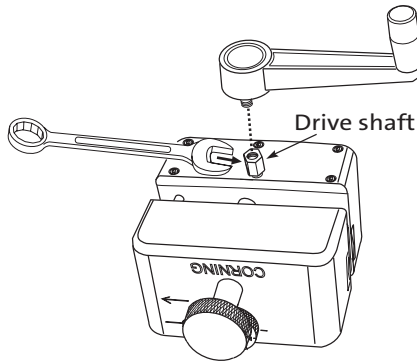

Figure 6
5.2 To attach the tool's handle, hold the drive shaft with the 3/8-in wrench provided and thread the handle onto the shaft (Figure 6).